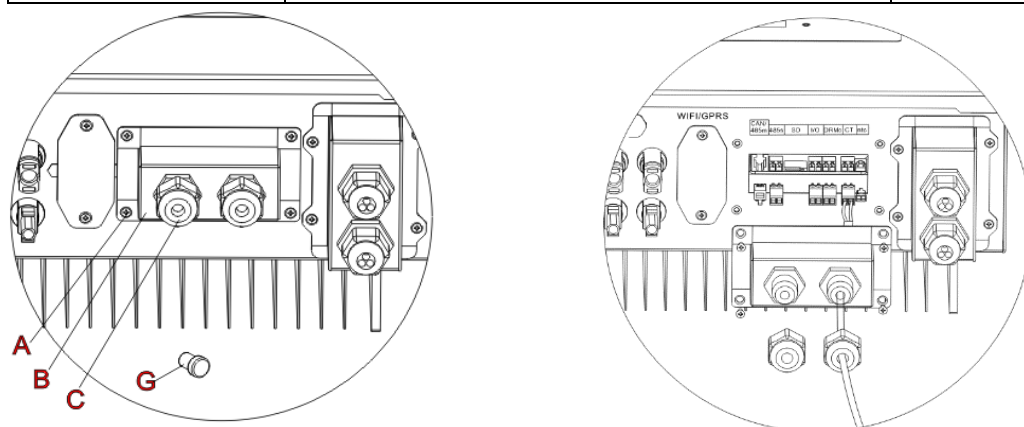

Fig. 15 CT / CAN / RS485 / NTC connection
Step 3: Loosen 4 screws (part A) using a screwdriver (Fig. 15)